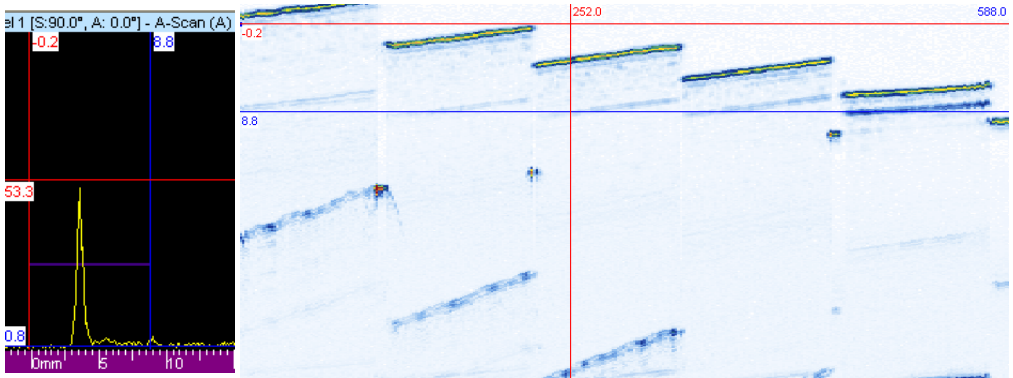

Figure 7-57 Example before resynchronization
- On the menu, select **Processing > Set A-scan Resynchronization gate** to define a new purple gate between the reference and measurement cursors which will be used as the reference for resynchronization (see Figure 7-57 on page 399).